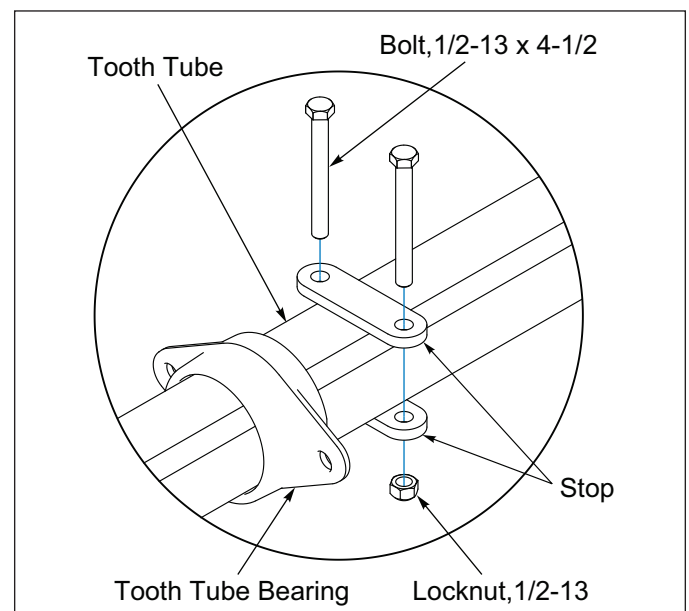

Figure 2-29: Tooth Control Tube Stop
3. Place stops on Tooth Control Tube against Tooth Tube Bearing to prevent Tooth Control Tube from sliding right or left. Secure with 1/2-13 x 4-1/2 Bolts and Locknuts. See Figure 2-29.